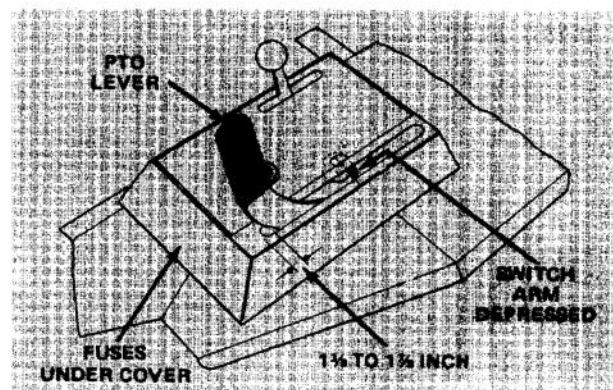

Figure 67
All fuses are accessible under the control console cover (Fig. 67).
1. Visually check PTO lever to be sure it deflects switch arm when lever is in the disengaged position (Fig. 67). Back surface of PTO lever must be within 1-3/8 to 1-7/8 in. from end of the slot (Fig. 67). If PTO lever does not deflect switch arm, proceed to step 2.
adjusting screw until PTO lever is within 1-3/8 to 1-7/8 in. from end of the slot, when lever is in the disengage position (Fig. 67). This will deflect the switch arm. Tighten jam nut against rod end to lock the adjustment in place (Fig. 68). Move PTO lever to engage position and rotate locknut at top of spring until the dimension of spring, between the top and bottom flatwasher, is 3 in. (7.6 cm) (Fig. 68). Repeat step 1.